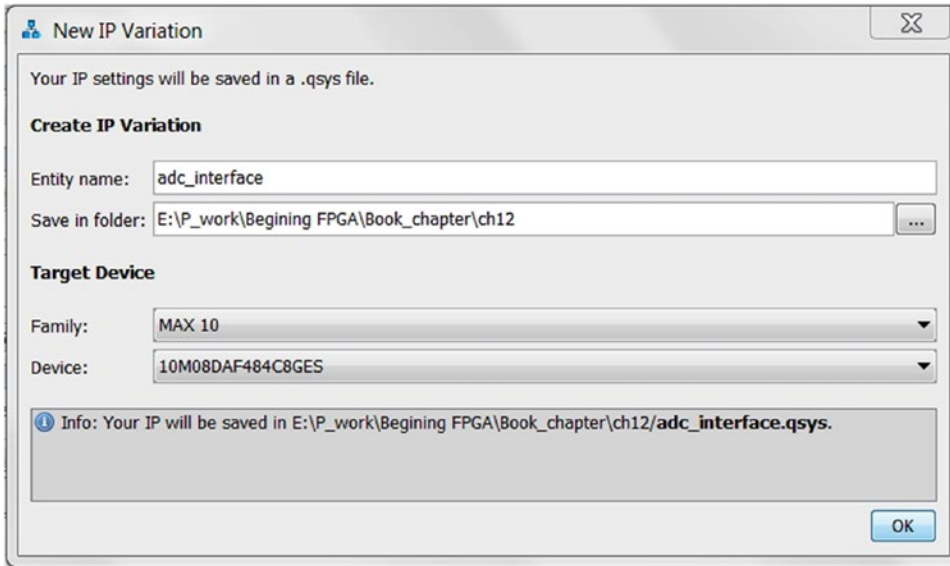

Figure 12-8. *New IP variation window for ADC interface IP*
Step 3: A new IP variation window will appear as Figure 12-8. Enter **adc_interface** in Entity name. The Save in folder location is your project folder location. You don't need to change the family and device setting. Click **OK**.